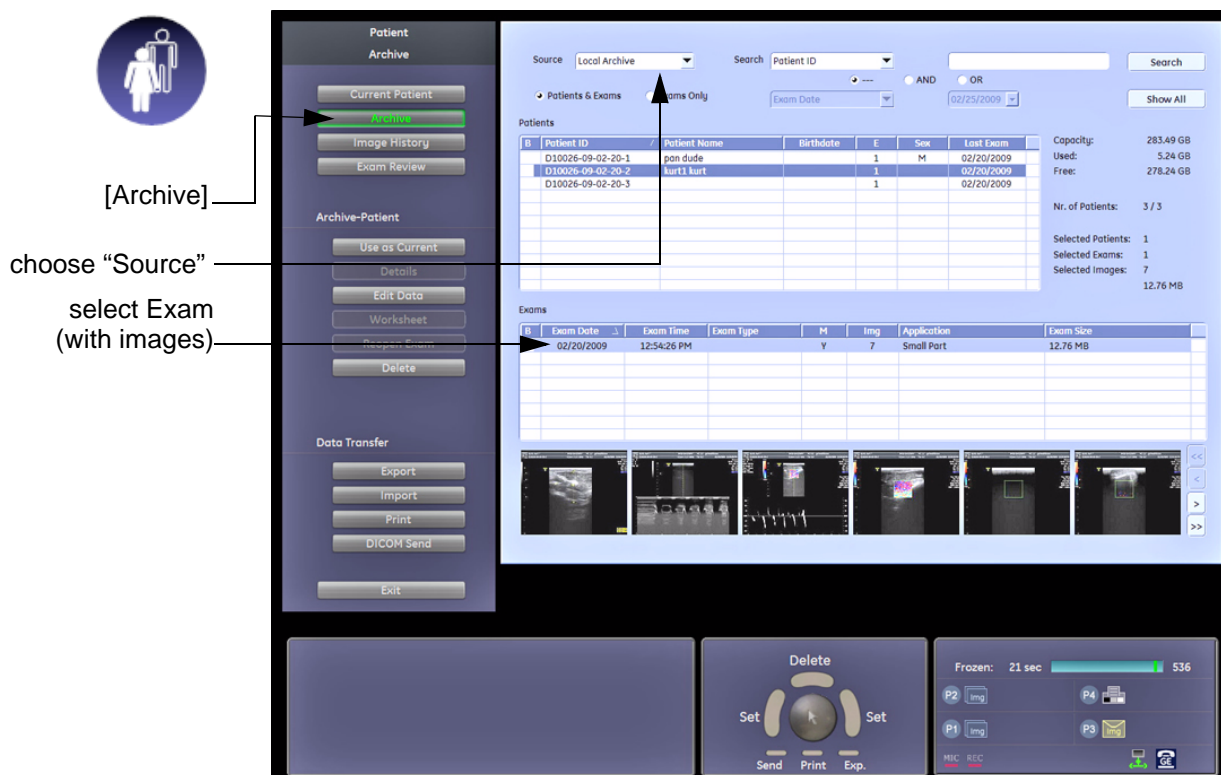

Figure 7-29 Patient Archive - ARCHIVE
- 3.) On the left side of the screen select ARCHIVE as shown in Figure 7-29 ABOVE.